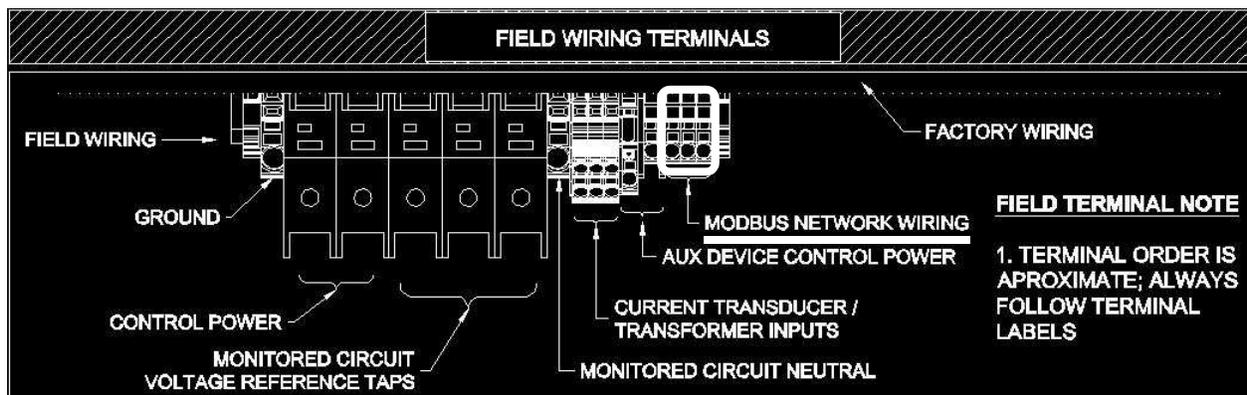

Figure 5 - Modbus device input area
- Figure 5 - Modbus device input area 8
External Modbus devices are connected to the communications loop via standard Modbus daisy-chaining (Figure 5 - Modbus device input area). Connect the outgoing +, -, and common RS485 wiring to the DATA MOD/RTU terminals. Connect the other end of the wiring to the RS485 terminals on the next device in the chain. Double-land an outgoing RS485 wire set on the device along with the incoming wires for further devices in the chain as needed. Continue to the last device on the chain, where a terminative resistor is included between the + and – terminals) if the final devices does not contain internal termination. See Communication and Wiring for termination information.